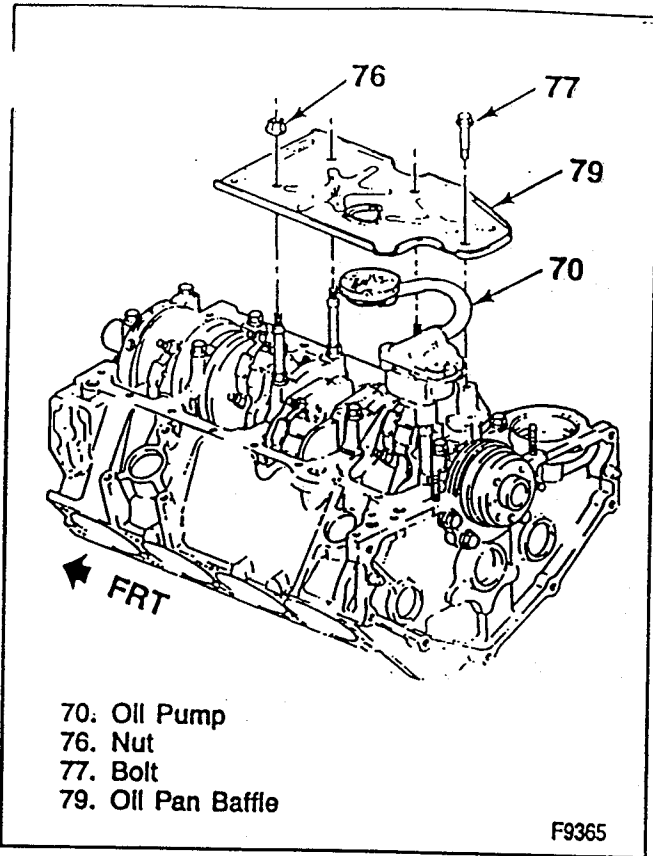

Figure 84—Oil Pan Deflector (5.0L and 5.7L Engines)
1. Oil pan gasket (74) to the oil pan (71).
2. Oil pan deflector nuts (76) (figure 84).
3. Oil pan (71) to the engine.
4. Oil pan bolts (72), nuts (73), and reinforcements (75).